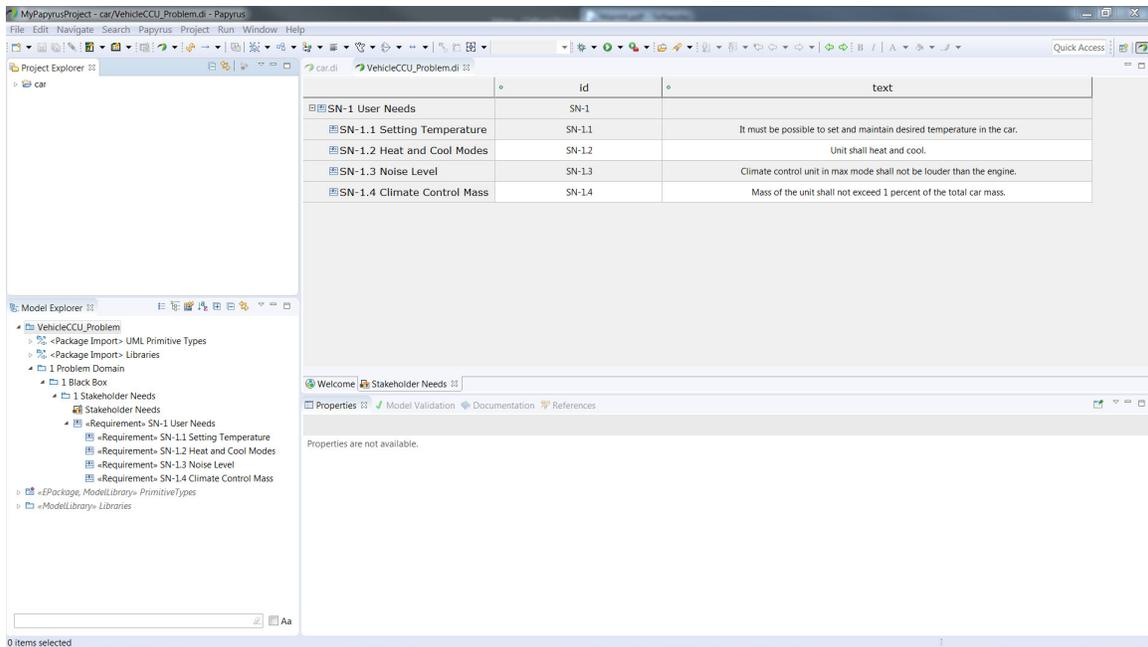

Figure 15: Requirements Tree
8. In the *Model View* window Left-click on the requirement *SN-1.1 Setting Temperature* requirement then hold down the *Control* key and select the last requirement *SN-1.4 Climate Control Mass*. Drag these requirements and drop them on the *SN-1 User Needs* to make these requirements child requirements of our heading requirement. Your screen should look like figure 15 with the requirements nested under *SN-1 User Needs* in the *Model View* window and a tree structure in the table view.